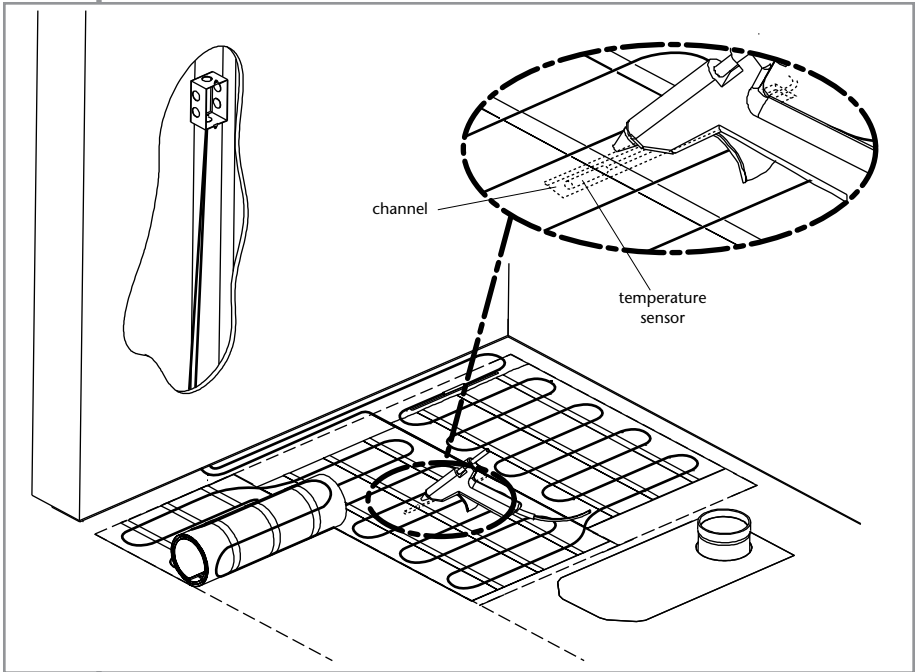

Fig. 4.5
- Glue the sensor to the subfloor (fig. 4.5). The sensor must be solidly fastened to the subfloor to ensure it stays in place when the cement or an equivalent binder (cement glue, ceramic glue, self-levelling cement) is applied.